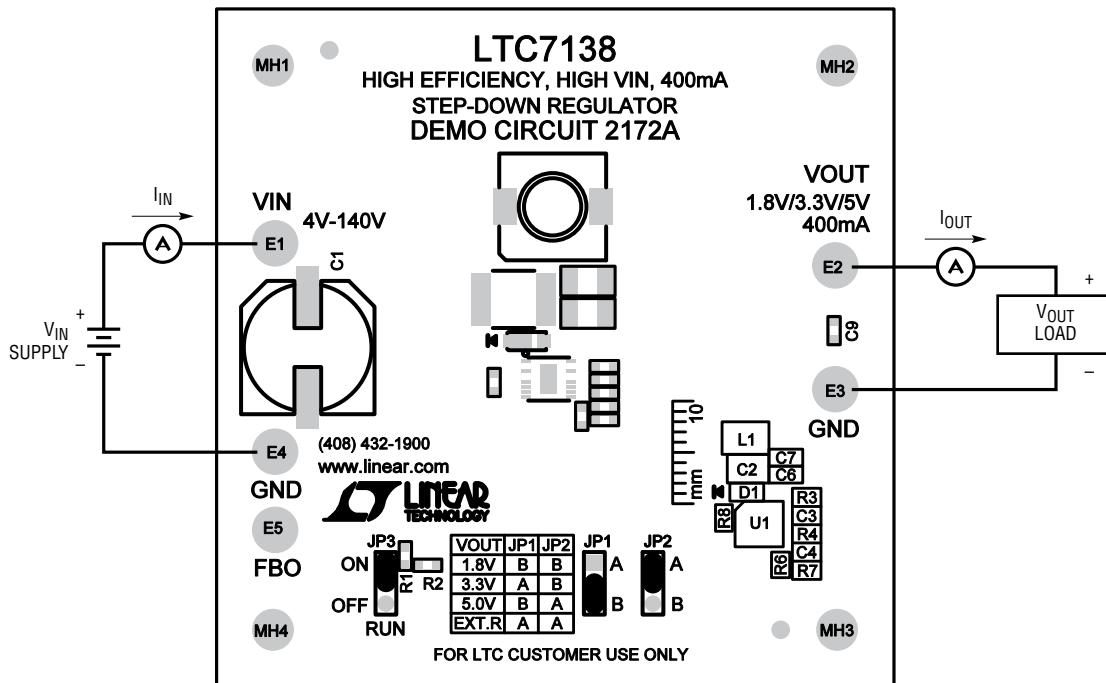

Figure 1. Proper Measurement Equipment Setup
Demonstration circuit 2172A is easy to set up to evaluate the performance of the LTC7138. Please refer to Figure 1 for proper measurement equipment setup and follow the procedure below.
- 1) With power off, connect the input supply, load and meters as shown in Figure 1. Preset the load to 0A and V_{IN} supply to 0V.